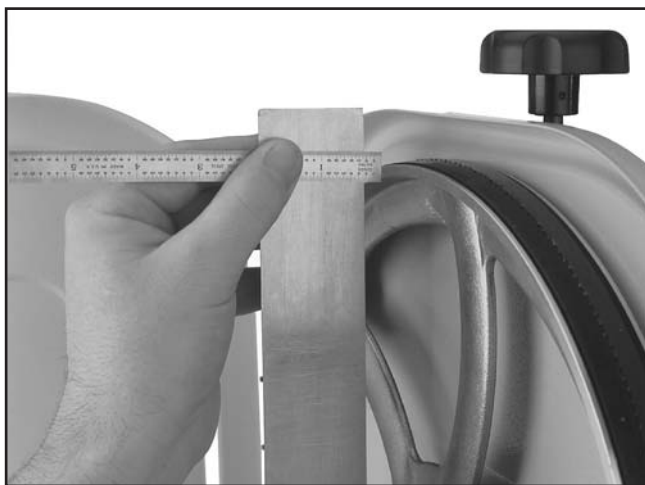

Figure 70. Measuring the distance to shim the wheel to be coplanar.
3. With the straightedge touching both rims of the wheel that does not need to be adjusted, measure the distance away from the other wheel with a fine ruler, as shown in **Figure 70**. The distance measured with the ruler is the distance this wheel must be shimmed.